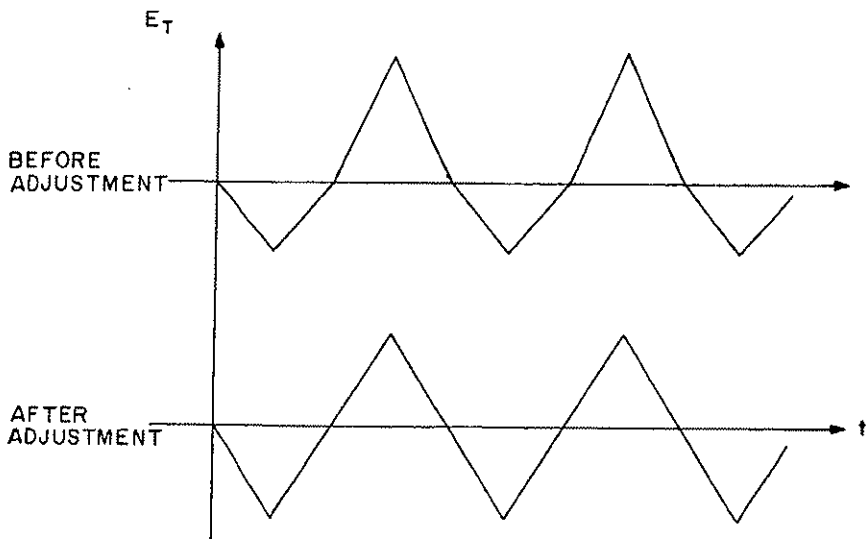

FIG. 5-2 OPTOCOUPLER LINEARIZATION IN MODEL BOP 200-1M.
- 5) Using the Voltage Programming Input terminals, program the unit by using a triangular voltage source (Function Generator) producing a 20V p-p, 250 Hz triangular wave. Observe the output signal on the scope, and adjust R15A Linearization control (See Section II, FIG. 2-1) until the non-linearity in the ramps of the triangular wave disappears (See FIG. 5-2).